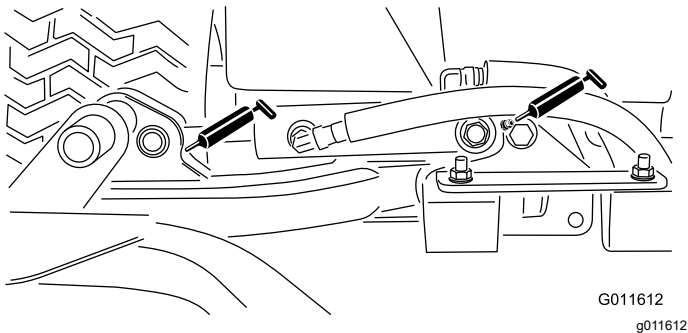

Figure 72
- Cutting unit lift-arm cylinders (2 each)—Figure 72
- Lift-arm pivots (1 each)—Figure 72